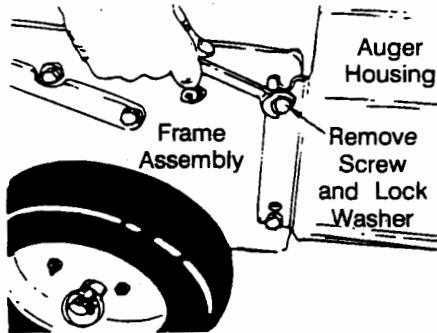

FIGURE 17
- Remove the top screws and lockwashers which attach the auger housing assembly to the frame assembly. A 9/16" wrench is required. See Figure 17.